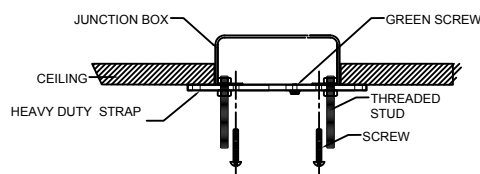

FIGURE-01
1. Attach the heavy duty strap onto the junction box. (The green screw should face the floor). Place the heavy duty strap at the junction box and fasten using the round head screw. (See FIGURE-01.)